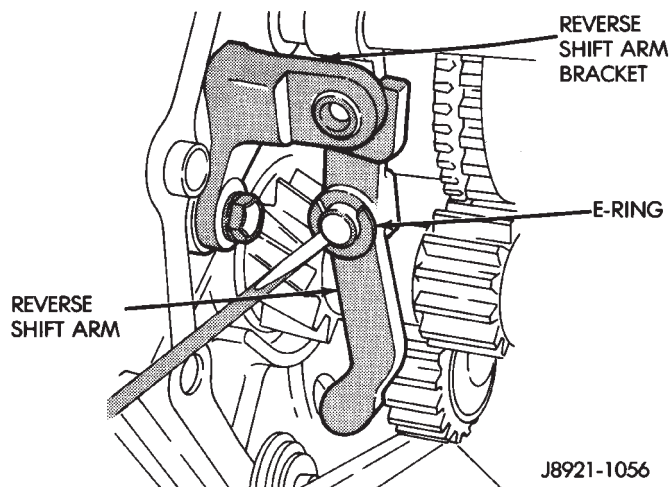

Fig. 26 Removing Reverse Shift Arm E-Ring
(5) Remove E-ring that secures reverse shift arm to fork (Fig. 26).